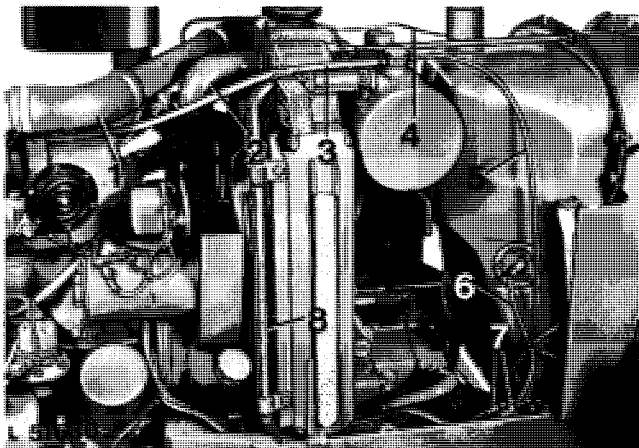

Fig. 1 — Separating between Tractor Front End and Engine
Disconnect air intake hose (see 1, fig. 1) at engine intake manifold and air cleaner.
*Only on tractors without oil cooler:* Disconnect hydraulic oil line (see 8, fig. 1) at top and bottom hose and remove.
*Only on tractors not equipped with oil cooler:* Connect oil line to oil reservoir and tighten both hose clamps (see fig. 1).
Connect hydraulic pump pressure line and install line clamps (see fig. 1).